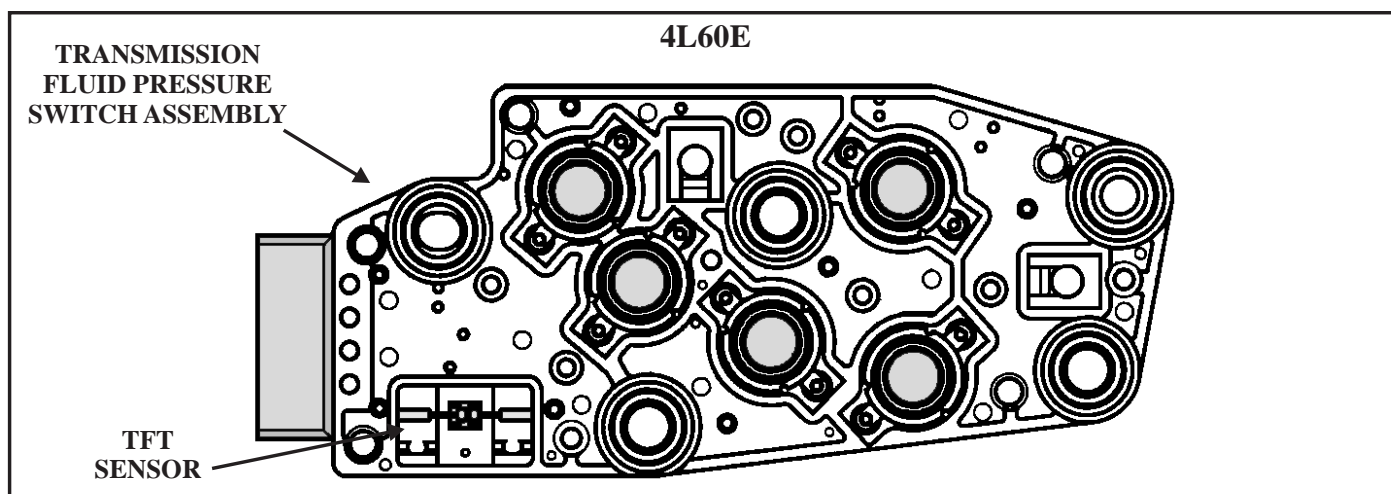

Figure 89
- The TFT Sensor on 4L60E is an integral part of the Transmission Fluid Pressure Switch assembly as seen in Figure 89. On 1991 to 1993 4L80E, the TFT Sensor is located at the front corner of the valve body as seen in Figure 90. 1994 and later 4L80E have the TFT Sensor located in-line as part of the internal wiring harness as seen in Figure 91.